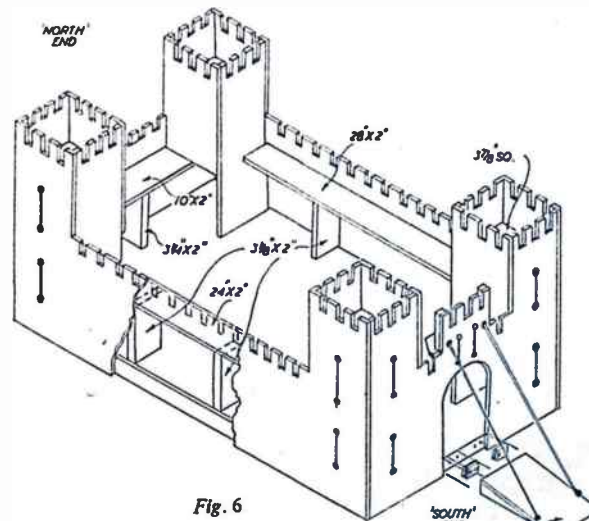

Fig. 6
Hardboard $\frac{3}{8}$ in. or $\frac{1}{2}$ in. thick is now cut and fitted round the sides as shown in Fig. 6, using panel pins for fixing. Drive them slightly under the surface to allow for filling before painting.
Hardboard $\frac{3}{4}$ in. or $\frac{1}{2}$ in. thick is now cut and fitted round the sides as shown in Fig. 6, using panel pins for fixing. Drive them slightly under the surface to allow for filling before painting.
board or, preferably, 3/4in. to 1/2in. thick material. In the latter case the gallery can be pinned down to the upright, as well as glued. After the gallery is properly fitted the two 'north' towers can be completed by the addition of the smaller faces, which need only gluing on (Fig. 6).
Next cut two strips of veneer to the size of part (I) and glue into position down one side of each part (H). Now file the spaces between the deck beams back to the edge of part (I), as in Fig. 6, which shows the finished assembly glued to the hull level with the top of (B). The lower wale is now fitted. Again